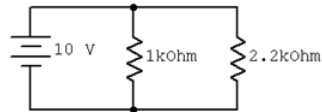

Figure 2
7. The voltage across each resistor in Figure 2 should be the same as the source voltage. The two currents may be found by dividing this voltage by the resistor value. Compute these currents and record them in the first column of Table 3.
6. If a third resistor was added in parallel in Figure 2, would the total current increase, decrease, or stay the same? Would the currents through the first two resistors increase, decrease, or stay the same?